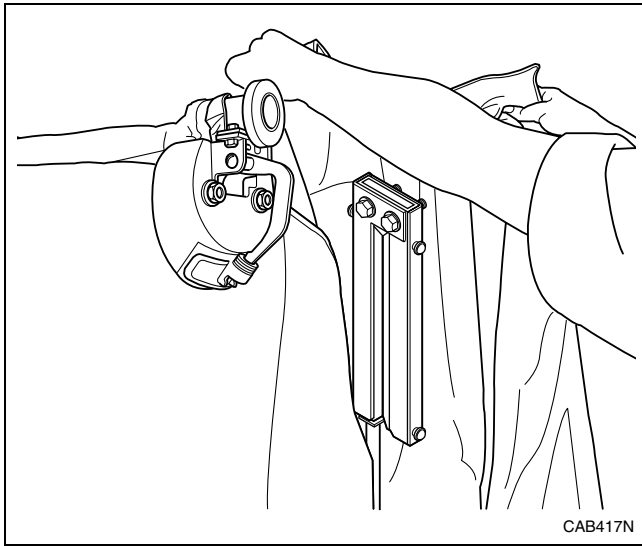

Figure 5
1. Grasp shirt by neck band with label side facing you. Turn to buck and swing the right arm of shirt over the buck (at the same time you are guiding the left side so the buck fills shirt armhole). Refer to *Figure 5*.